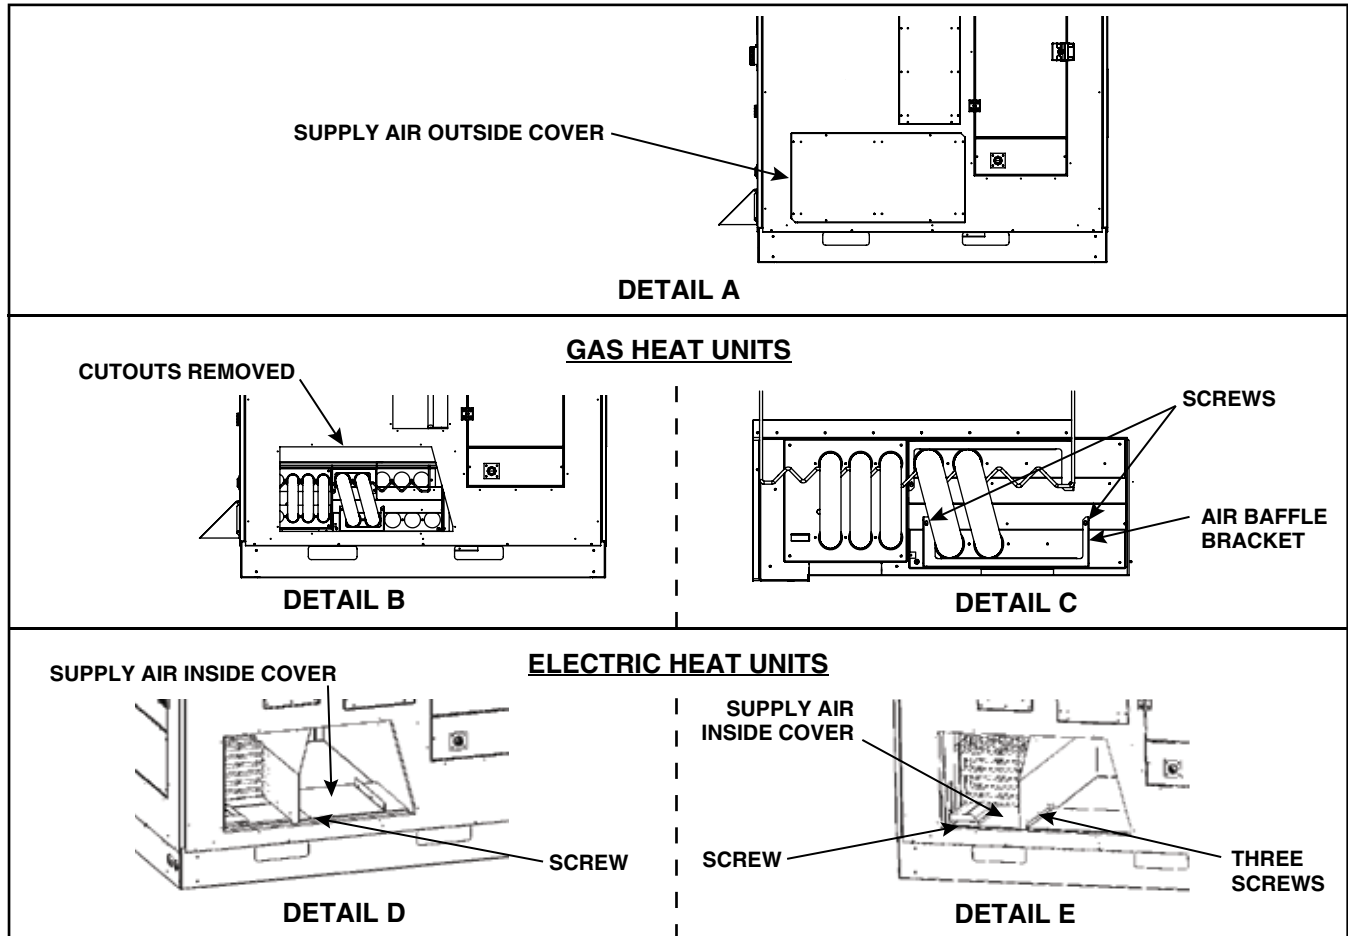

Figure 9. Vertical to Horizontal Duct Conversion
1. Remove supply air outside cover (see Figure 9, DETAIL A). For gas heat units, do not discard cover—it will be installed over supply opening in bottom of unit. For electric heat units, proceed to step 3.
- a. Cut supply opening, following along tabbed cutouts. Note that there are tabs on inside and outside of panel. Discard cut sections—they will not be needed. Figure 9, DETAIL B shows opening with cutout removed.
- b. Remove two screws that secure air baffle bracket (see Figure 9, DETAIL C) to heat exchanger air baffles and remove bracket. This will provide additional clearance for correct positioning of supply air outside cover on bottom of unit.
- a. Remove screw from supply air inside cover (see Figure 9, DETAIL D). Remove cover and replace screw.
- b. Install supply air inside cover in blower side of opening and secure cover using one screw in blower side and three screws in top holes (see Figure 9, DETAIL E).